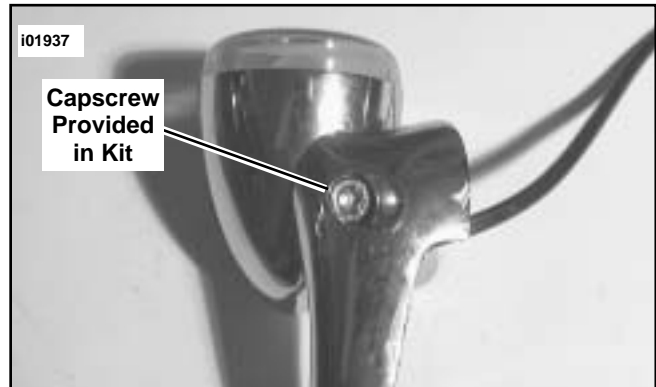

Figure 7. Install Turn Signal to Relocation Mount
13. See Figure 7. Using socket head capscrew provided in kit, install turn signal to relocation mount. Tighten screw securely.